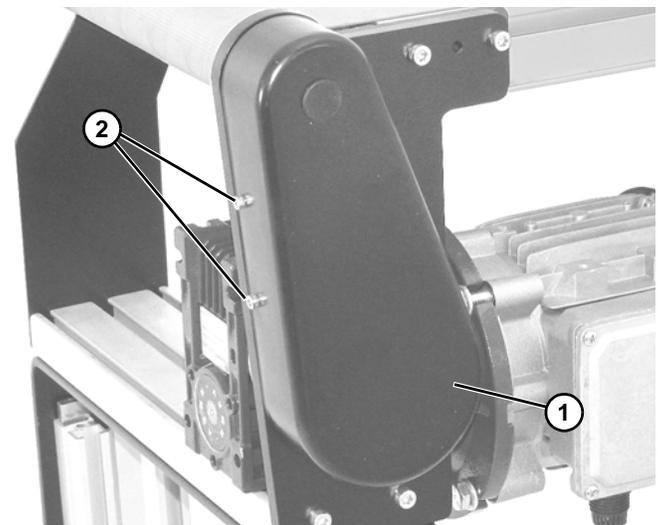

Figure 24
1. Remove four (4) screws (**Figure 24, item 2**) and remove cover (**Figure 24, item 1**).